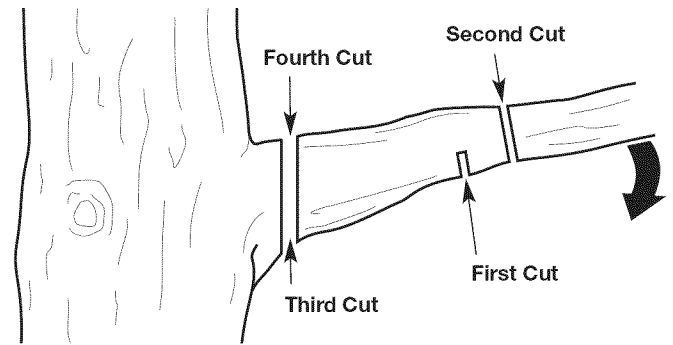

Fig. 22
1. Make the first cut approximately 6 inches (15 cm) from the tree trunk. Cut upward, from the underside of the limb. Use the top of the guide bar to make this cut. Cut a third of the way through the diameter of the limb (Fig. 22).
2. Make the second cut 2 - 4 inches (5 - 10 cm) farther out on the limb. Cut downward, from the top of the limb. Use the bottom of the guide bar to make this cut. Cut completely through the limb (Fig. 22).
3. Make the third cut as close to the tree trunk as possible. Cut upward, from the underside of the limb stub. Use the top of the guide bar to make this cut. Cut a third of the way through the diameter of the limb (Fig. 22).
4. Make the fourth cut directly above the third cut. Cut downward, from the top of the limb stub. Use the bottom of the guide bar to meet the third cut (Fig. 22). This will remove the limb stub.